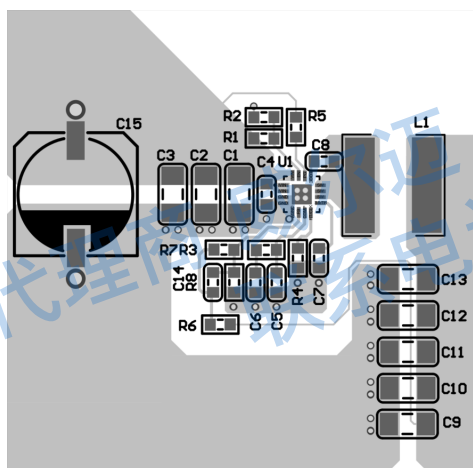
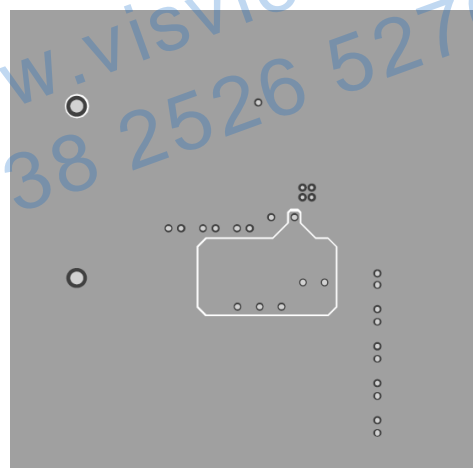

Figure 10. Top Layer
Figure 11. Bottom Layer
For the SGM61060, 50kHz is selected as the crossover frequency. From the Figure 10, the gain at 50kHz is -9.816dB and the phase is -125.663 degrees. The error amplifier gain set by R_3 is required to compensate power stage for +11.35dB at f_C , and the value can be calculated from Equation 27.
It can be seen from Figure 10 that DC gain is 19dB and -3dB is at 2.295kHz. C_6 sets the location of the compensation zero along with R_3 . To place this zero on the converter pole, use Equation 28.
- Layout is a critical portion of good power supply design. See Figure 10 and Figure 11 for a PCB layout example.